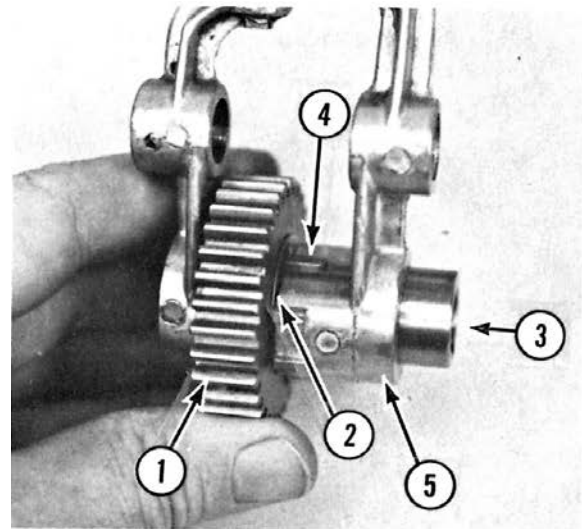

Fig. 3-22
- A. Place the 31T gear (1, Fig. 3-22) and retainer (2, Fig. 3-22) into the tumbler yoke.
- B. Push the shifter sleeve (3, Fig. 3-22) into the tumbler yoke.
- C. Rotate the shifter sleeve (3, Fig. 3-22), retainer (2, Fig. 3-22), and 31T gear (1, Fig. 3-22) to align the keyways in all three parts.
- D. Install the key (4, Fig. 3-22).
- E. Push the shifter sleeve into the tumbler yoke (5, Fig. 3-22).